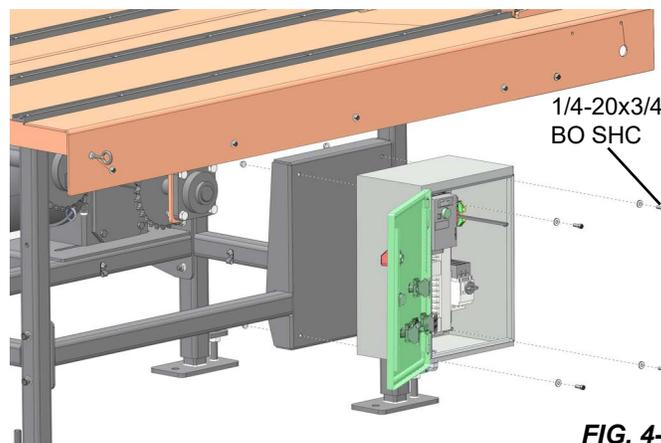

FIG. 4-9
- Mount the electrical box to the frame by the 4 bolts at the inside corners of the box as shown in FIG. 4-9.